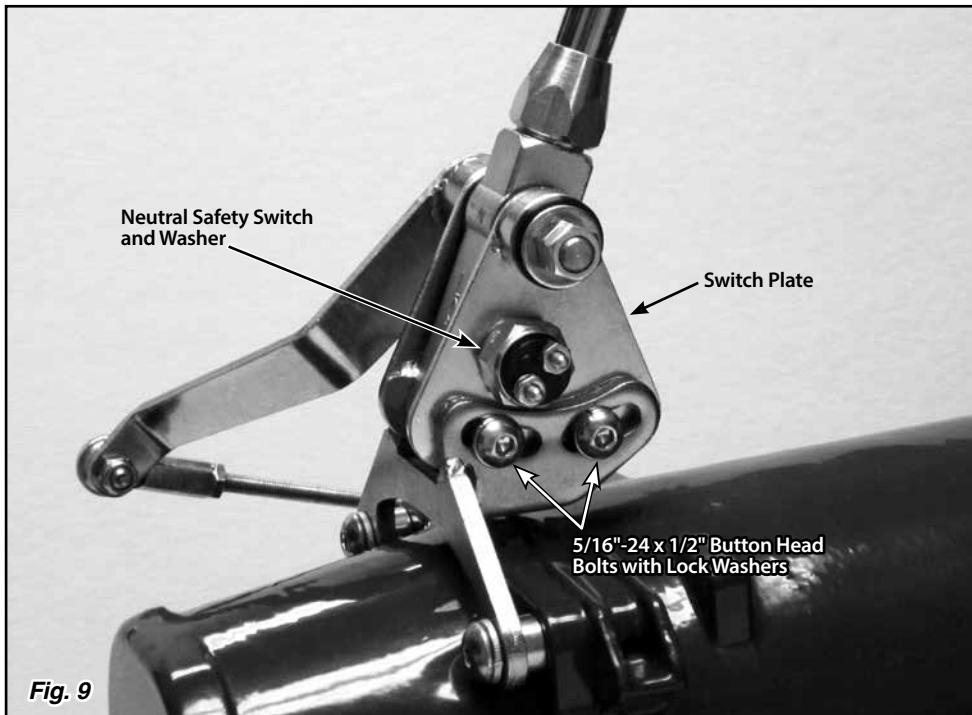

Fig. 9
Step 14: Remove the neutral safety switch and washer (**Fig. 9**) from the right side of the shifter using a 7/8" wrench or socket.
Step 15: Loosen, but do not remove, the two 5/16"-24 x 1/2" button head bolts that connect the right side welded banana bracket to the switch plate (the bolts are in curved, slotted holes). **Fig. 9**